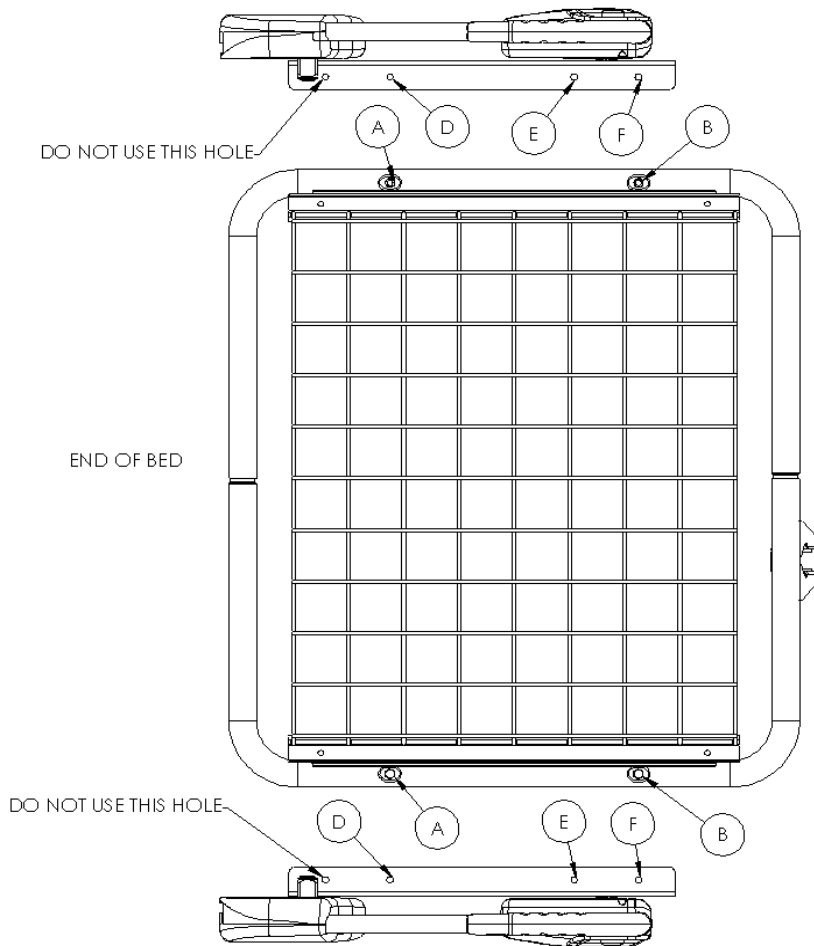

Figure 1
1. Line up holes A & D and holes B & F (see Figure 1 on this page).
1. Line up holes A & D and holes B & E (see Figure 1 on this page).